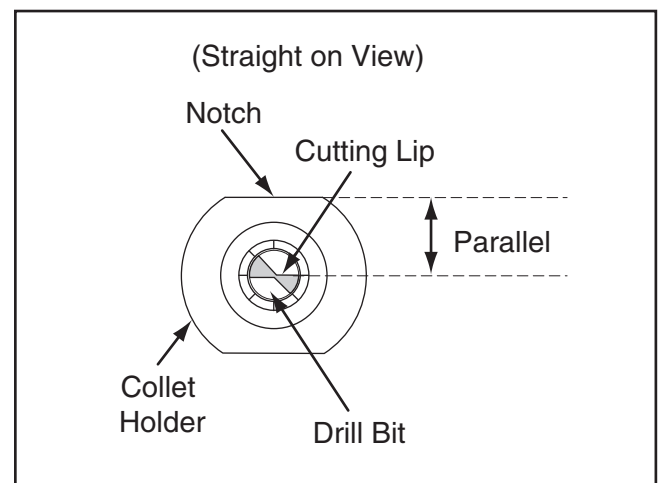

Figure 15. Cutting edge parallel to collet holder notch.
9. The drill bit is properly calibrated when the notch on the collet holder and the drill bit cutting lip are parallel, as shown in **Figure 15**.